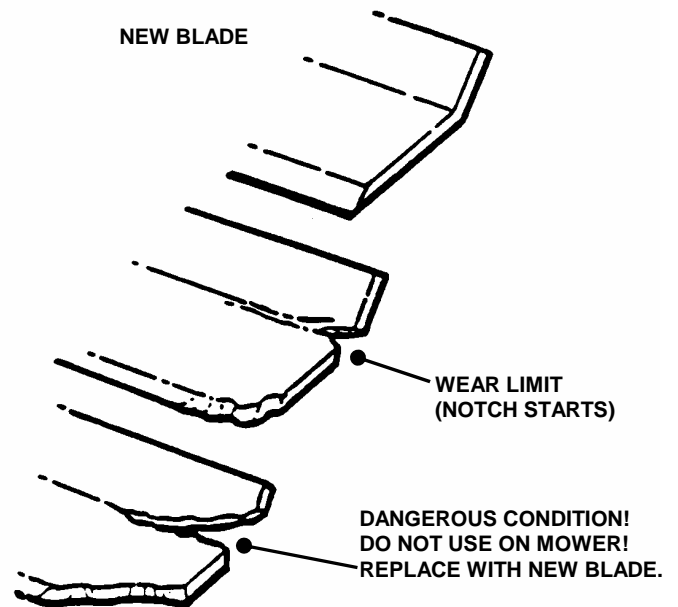

FIGURE 5.4
1. Inspect blade frequently for signs of excessive wear or damage. See Figure 5.4.